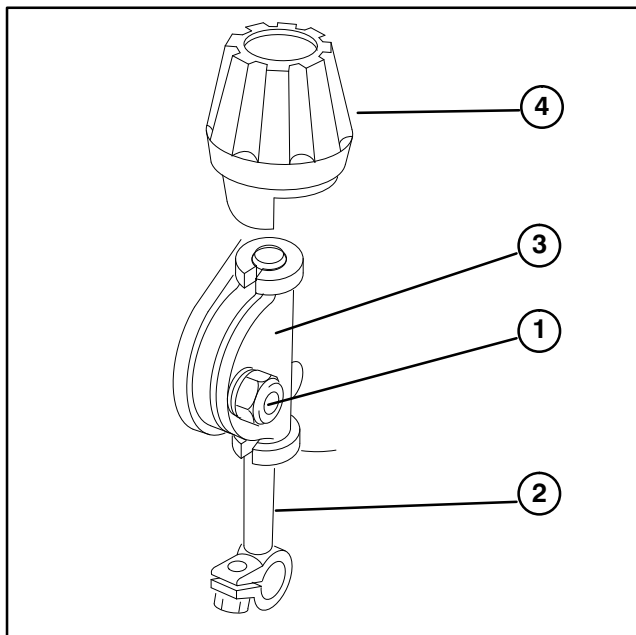

Figure 1
1. Loosen carriage bolts, washers, and locknuts securing roller adjusting screws to height-of-cut brackets (Fig. 1).
2. Loosen height-of-cut adjusting knobs until adjusting screws may be removed from height-of-cut brackets (Fig. 1).